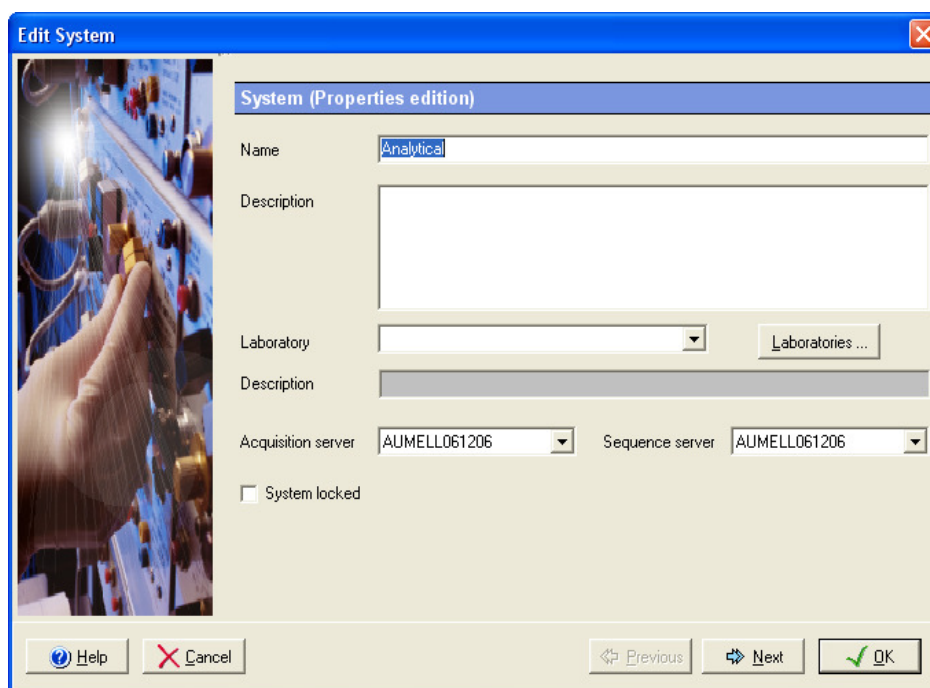

Figure 17: Editing the system starts the Hardware
2. After double clicking on the system the following page appears (*Fig. 17*). Click OK.